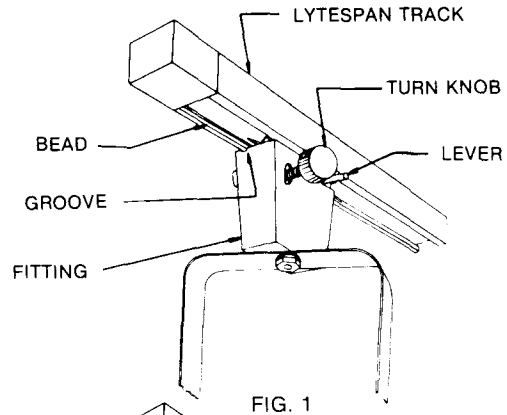

FIG. 1
1. Align BEAD on LYTESPAN TRACK and GROOVE in FITTING before inserting into LYTESPAN TRACK. See Fig. 1. (If BEAD is NOT aligned, a potential hazard may result.)
2. Unscrew the TURN KNOB partially and position LEVER. See Fig. 1.